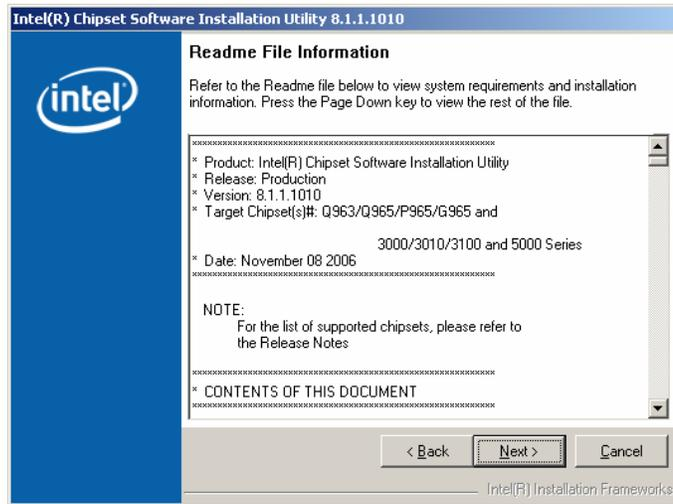

Figure 6-5: Chipset Driver Readme File Information
Step 8: The Readme file in **Figure 6-5** appears.
Step 9: Click **NEXT** in **Figure 6-5** to start the driver installation.